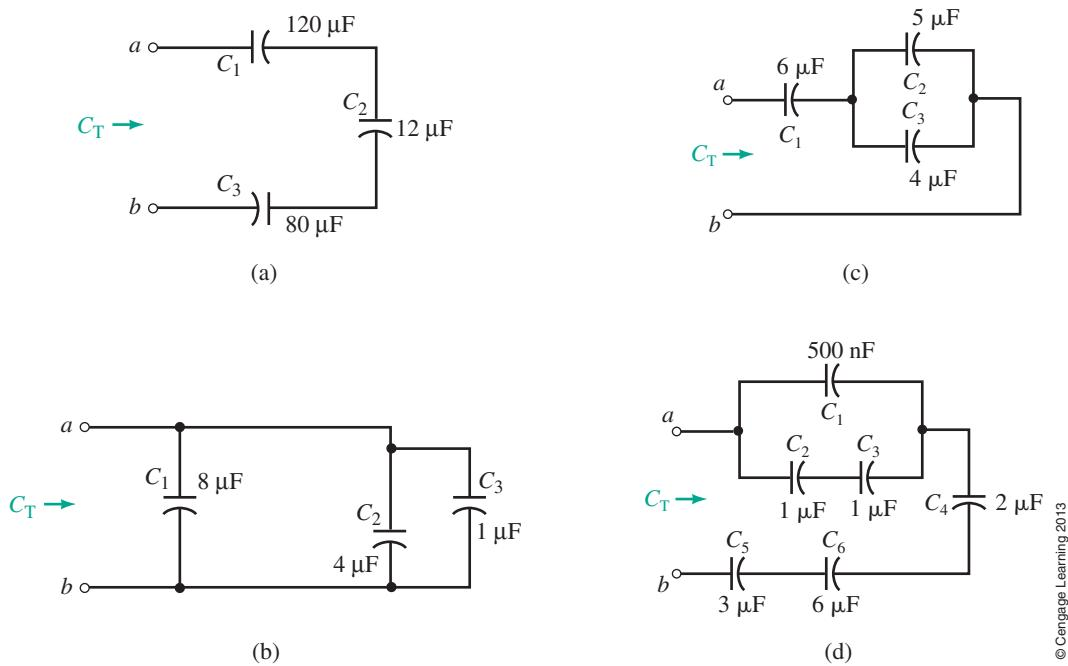

FIGURE 10-33
27. Determine C_T for each circuit of Figure 10-33.
37. For Figures 10-33(c) and (d), find the voltage on each capacitor if 100 V is applied to terminals $a-b$.